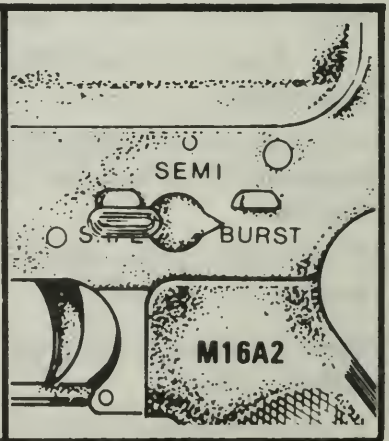

Figure 97. Selector lever on BURST.
a. Place the selector lever on burst (Figure 97).